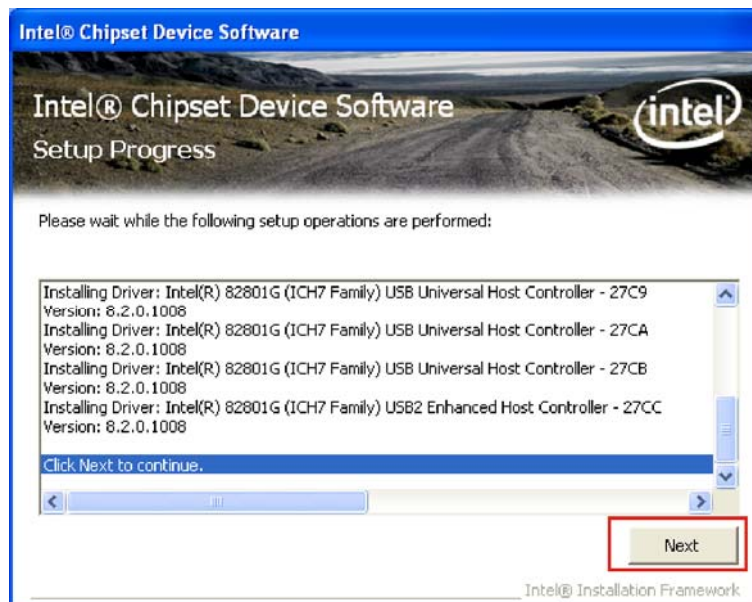

Figure 6-7: Chipset Driver Setup Operations
Step 10: Setup Operations are performed as shown in Figure 6-7.